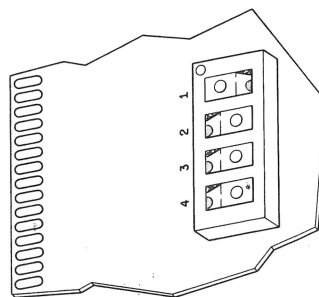

Figure 2. Select Code Switches
The 98627A occupies the space of two select codes. The switches are always set to even numbered select codes but both the code set on the switches and the next higher select code are used. Figure 2 shows the preset select code (28).